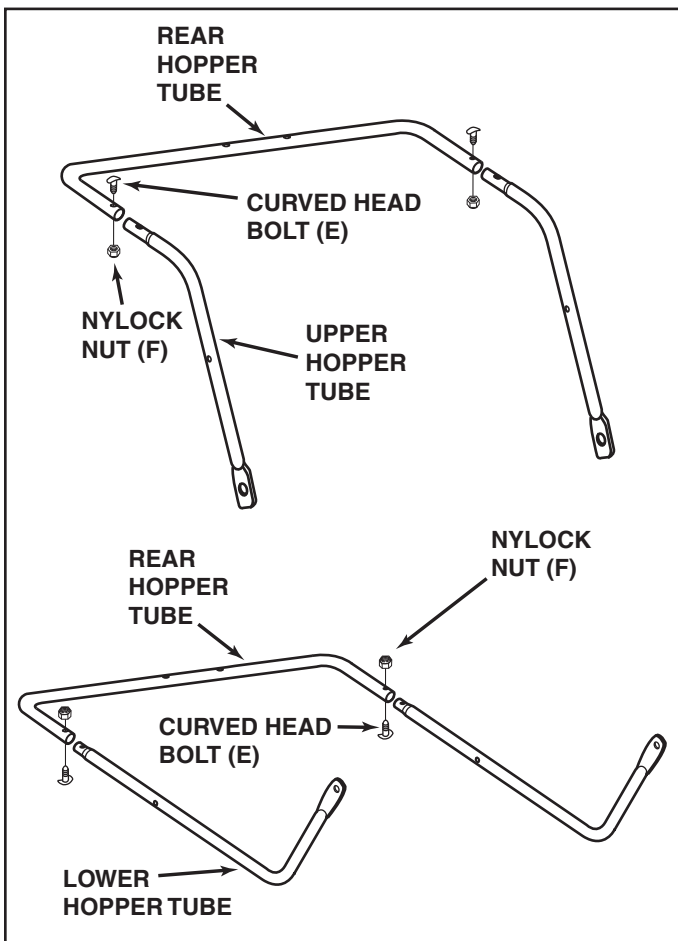

FIGURE 10
- If the tractor hitch is 10" or more above the ground, assemble the hitch brackets as shown in figure 10. Insert two hex bolts (B) through the brackets, with the rear hex bolt between the cross bolts in the hitch tubes. Secure the hex bolts (B) with two nylock nuts (G). **Do not tighten yet.**
- Assemble the two spacers (I) onto the hitch pin (N) and secure the pin with the hairpin cotter (M).
STEP 12: (SEE FIGURE 10)
- Fit the ends of the two upper hopper tubes into the ends of a rear hopper tube. Align the holes in the ends of the tubes and secure them in place using two curved head bolts (E) and nylock nuts (F).
- Fit the ends of the two lower hopper tubes into the ends of a rear hopper tube. Align the holes in the ends of the tubes and secure them in place using two curved head bolts (E) and nylock nuts (F).